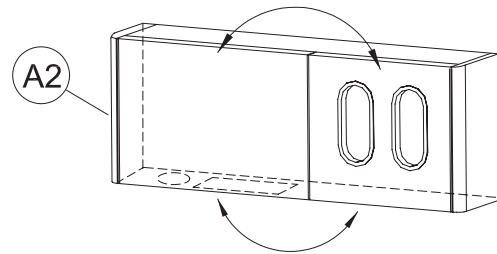

FIGURE 3
If the glove/tissue & paper towel / cup dispensers need to be flipped to the opposite sides See Figure 3 refer to E-2U Dispenser Flipping Instructions. Perform this task now if so desired.
With the cabinet laying on its back turn each of (2) cams on the bottom of the cabinet counter clockwise approx $\frac{1}{2}$ turn. See Figure 3